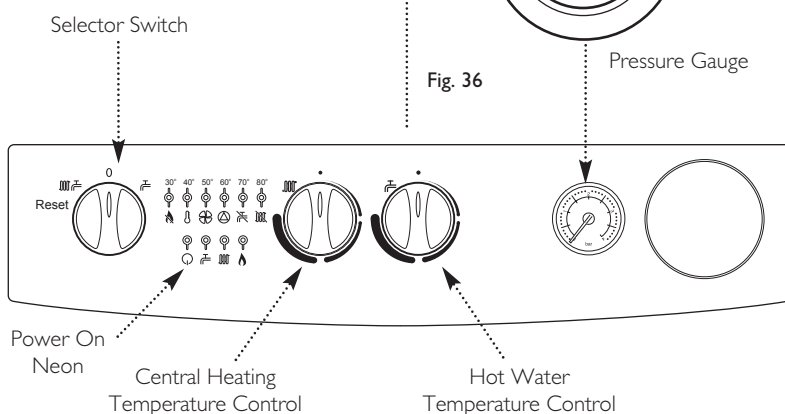

Fig. 37
2. Set the temperature controls to maximum and the selector switch to the Off position (Fig. 37).
5. Turn the selector switch fully anticlockwise against the spring pressure to the reset position and hold for 2 seconds to reset the boiler (Fig. 37).
6. Turn the selector switch to the Central Heating and Domestic Hot Water position (☼). The power On neon (Ⓢ) will illuminate (Fig. 37).